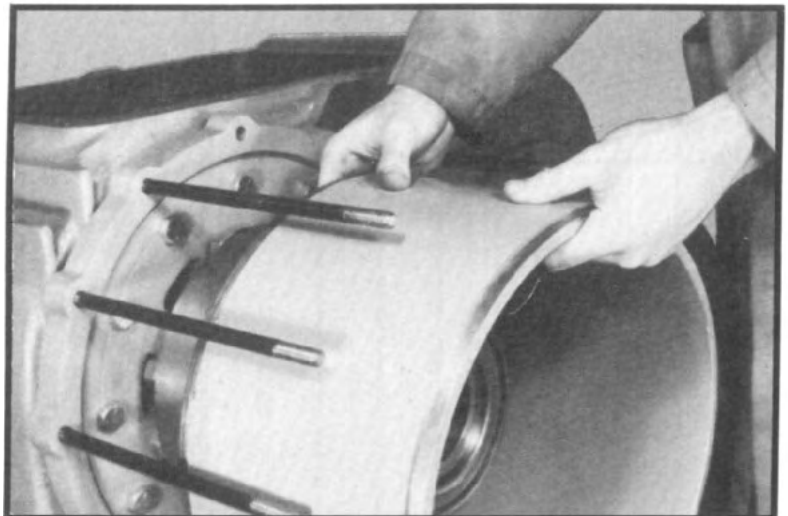

Fig. 46
- 2.9 Tap differential housing to loosen and remove. (See fig. 46.)